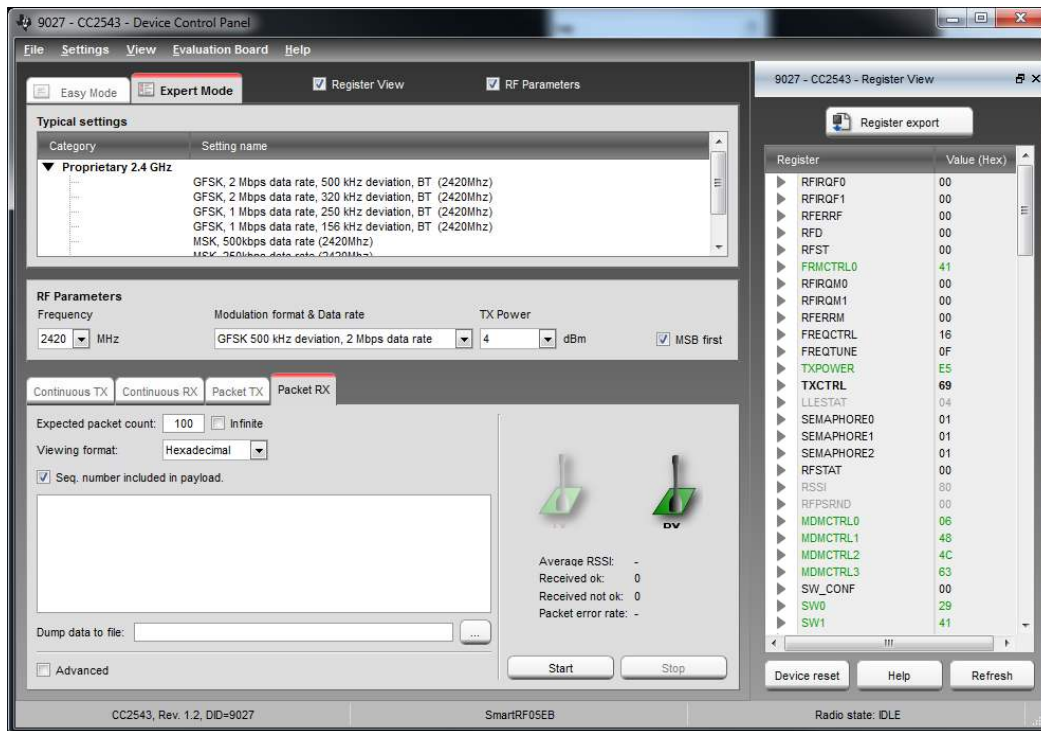

Figure 7 - CC2543 control panel in SmartRF Studio
Figure 7 shows the main control panel for the CC2543. It lets you perform a number of operations:
- Select one device to be the transmitter, by selecting the “Packet TX” tab shown in the lower middle of Figure 7.